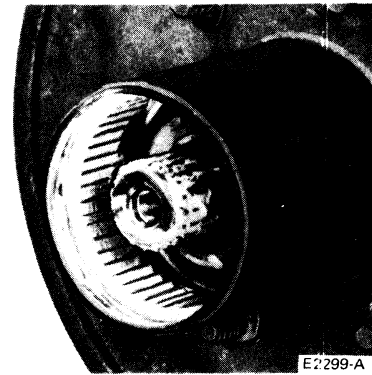

FIG. 6 Grease Application
1. Grease the inner hub with high speed grease (Fig. 6).